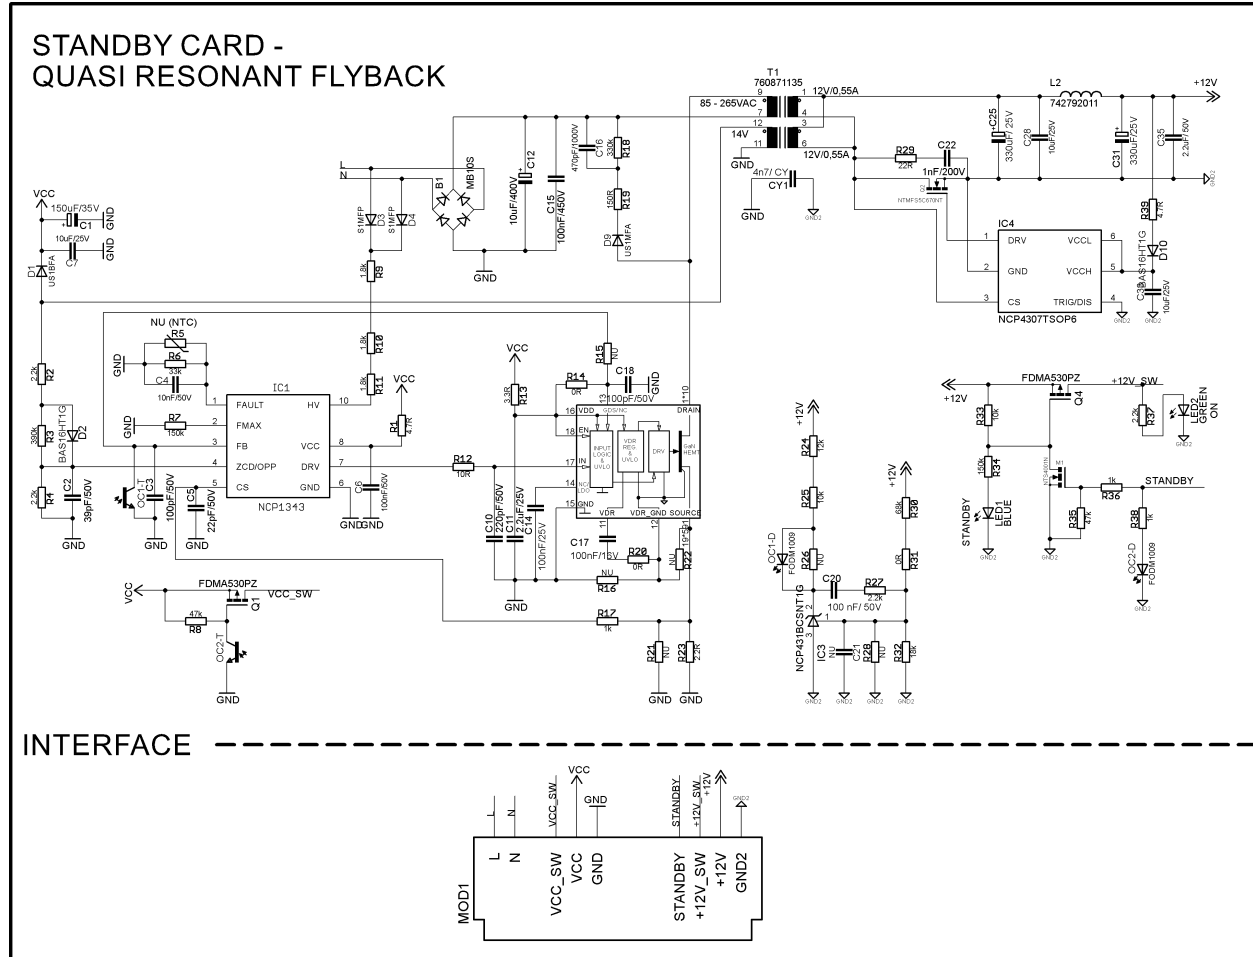
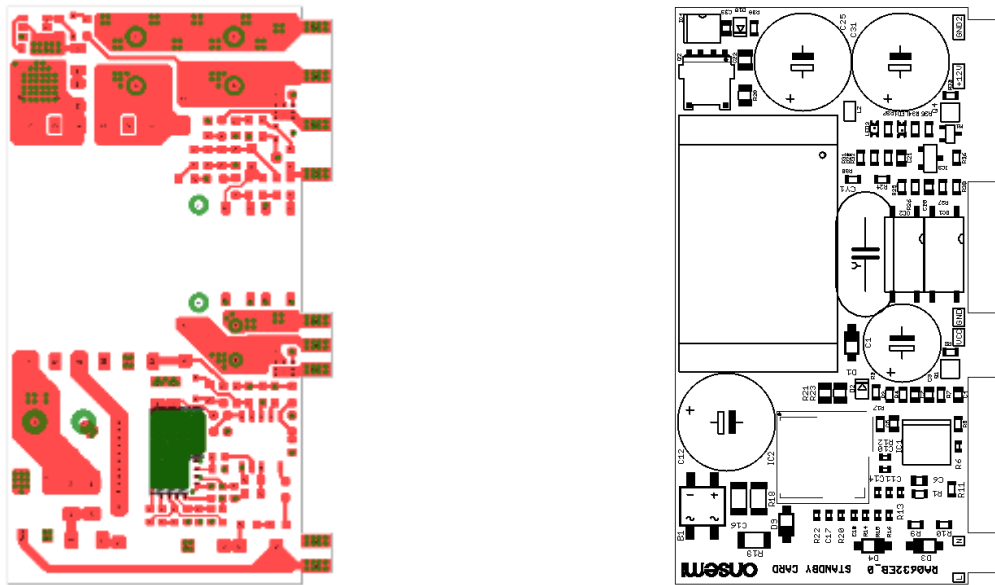

Figure 39. STANDBY CARD Schematic
Figure 40. Top Layer PCB Layout and Assembly Plan of STANDBY CARD
The STANDBY CARD is portrayed in first few figures: schematic diagram in Figure 39, PCB layout with assembly plan in Figure 40, Figure 41 and photographs in Figure 42. The STANDBY CARD is two-layer 1.5 mm width core PCB with 35 μm copper plating. The PCB is designed to be plugged into MAIN BOARD. Dimensions of the PCB are 60x33.7 mm. The input bridge rectifier is connected to line voltage via the EMI filter of MAIN BOARD and filtered by capacitors C12 and C15. The snubber network (voltage clamp) consists of diode D9, resistors R18–R19 and capacitor C16. The primary and secondary sides are coupled by capacitor CY1 to closed path for the common-mode noise. The secondary side of the standby power supply is created by SR rectifier (Q2), RC snubber network (R29, C22), electrolytical and ceramic filtering capacitors C25, C28, C31, C35 and inductor L2 (ferrite bead). The SR driver IC4 is supplied via resistor R39 and D10, filtered by capacitor C33. The DRV pin is intended to drive the SR transistor Q2. Current sense (CS) pin detects if the current flows through the SR MOSFET and/or its body diode.